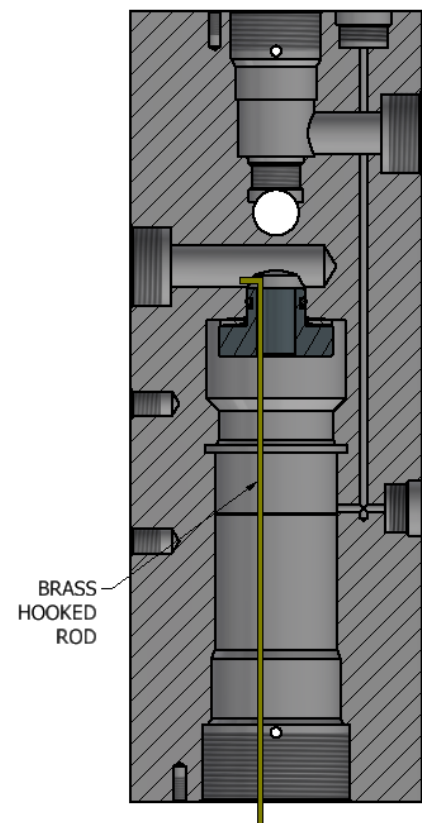

Figure 11 – Seat Removal
- 13.6 Insert the seat into the body by slowly pushing with a tool which will not chip the ceramic seat. Orient the seat with smallest diameter end into the body (see Figure 11).
- 14.1 If needed, ensure that the seat is placed in the valve per Figure 11.